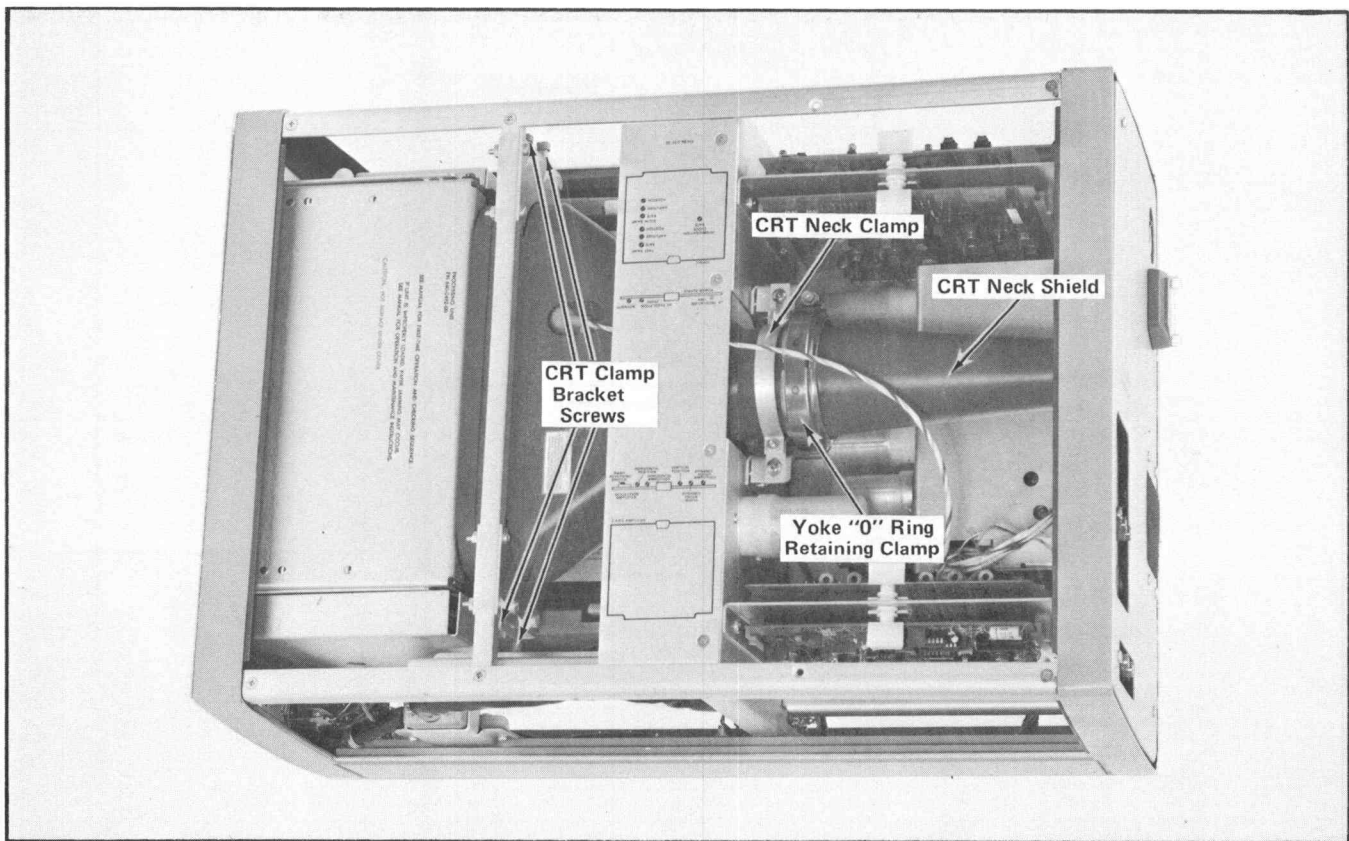

Fig. 4-2. Illustration showing location of CRT alignment adjustments.
4. Loosen the yoke "O" ring retaining clamp and CRT neck clamp bracket (see Fig. 4-2) to relieve the strain on the neck of the CRT for the steps that follow.
7. With the instrument in the normal position, loosen the two upper CRT clamp bracket screws; see Fig. 4-2.